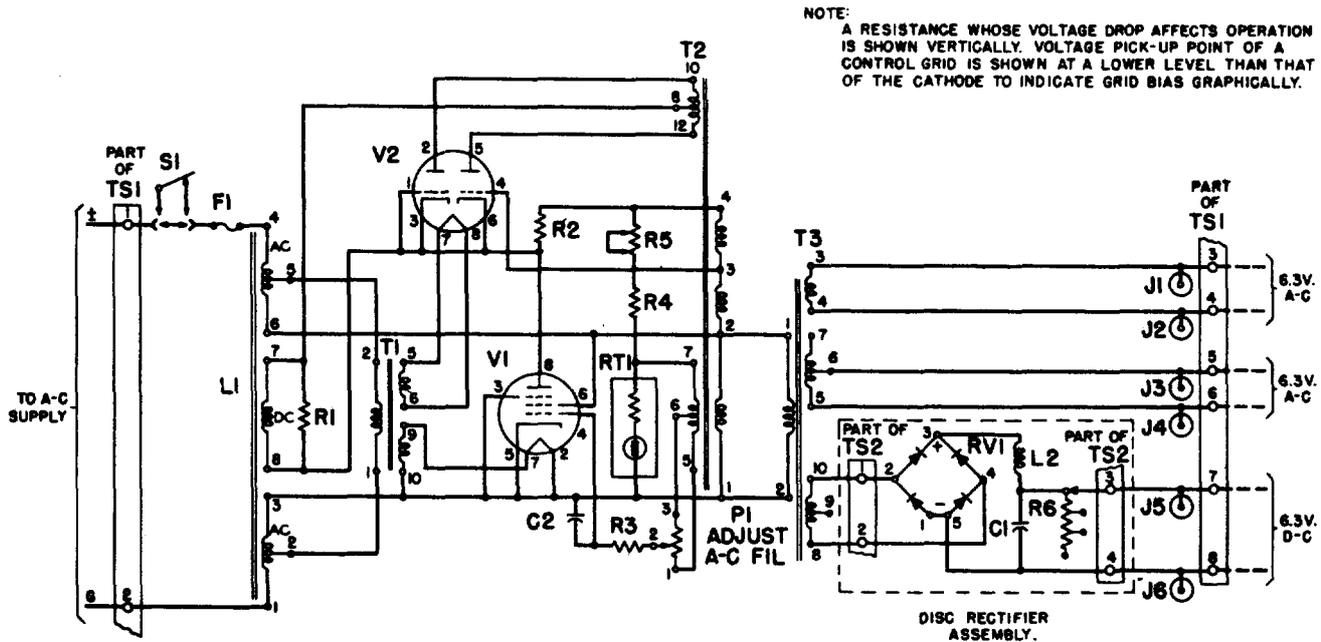

Fig. 1 - Functional Schematic
How the Regulator Works (See Fig. 1 - Functional Schematic)
2.06 Regulated d-c supply for filament is shown in Fig. 1 at terminals 7 and 8 of terminal strip TS1. A second d-c